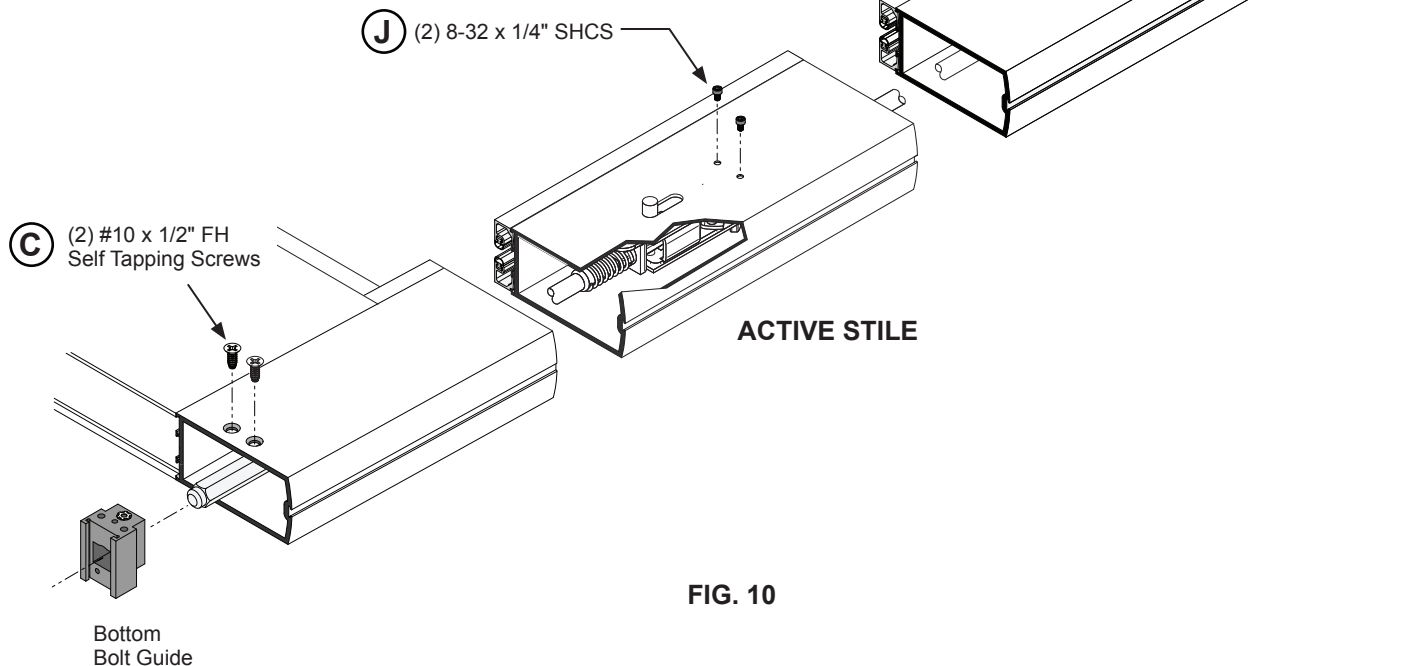

FIG. 10
2. Align actuator pin through the slotted cut-out on interior face of stile, fastening with (J) (2) 8-32 x 1/4" Socket Head Cap Screws (Fig. 10)
4. Install the top bolt guide assembly with (C) (2) #10 x 1/2" FH self threading screws at both the top of active door stile. Two holes face of interior side of stile.
5. Install the bottom bolt guide assembly with (C) (2) #10 x 1/2" FH self threading screws at the bottom of active door stile. Two holes face of interior side of stile.